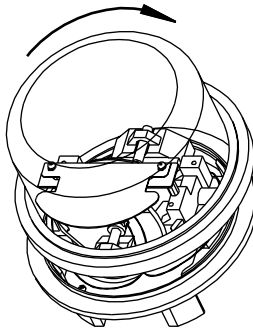

Figure 24. Replacing Cover
10. Replace the cover by screwing it back on in a clockwise direction. Ensure all wires are clear of operational parts. See Figure 24.